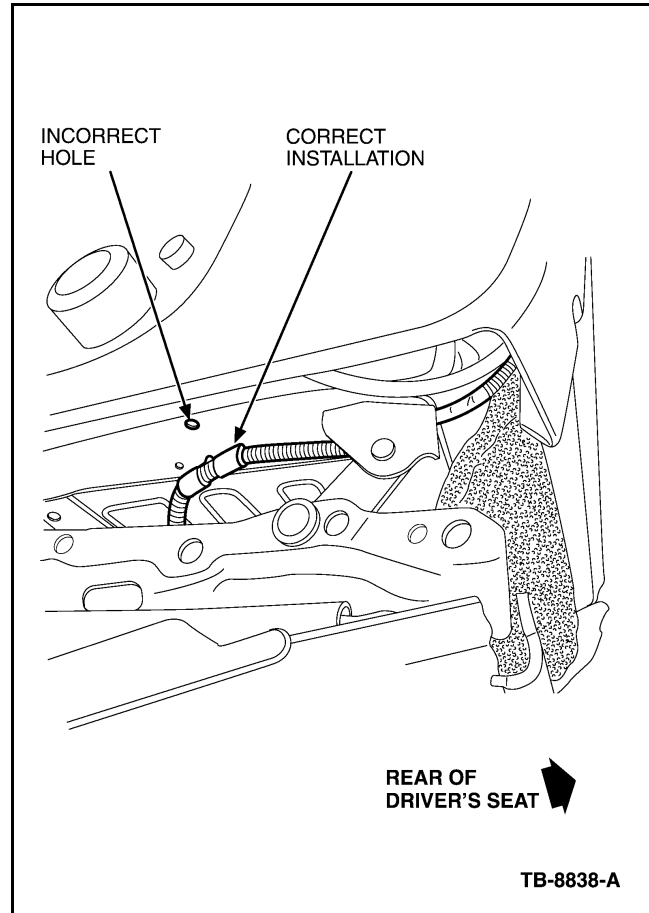

Figure 3 - Article 07-10-3
5. Install the wire harness to the seat frame. (Figure 3)